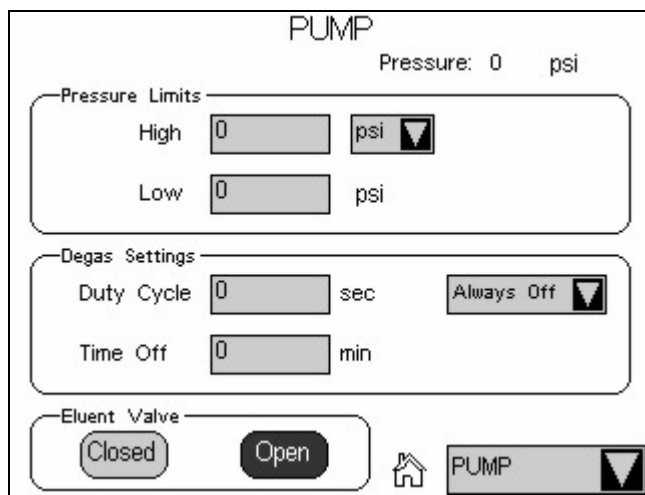

Figure 24. Pump Page: Eluent Valve Open
5. Touch **PUMP** to open the touch screen **PUMP** page (see Figure 24). Under **Eluent Valve**, touch the **Open** button.